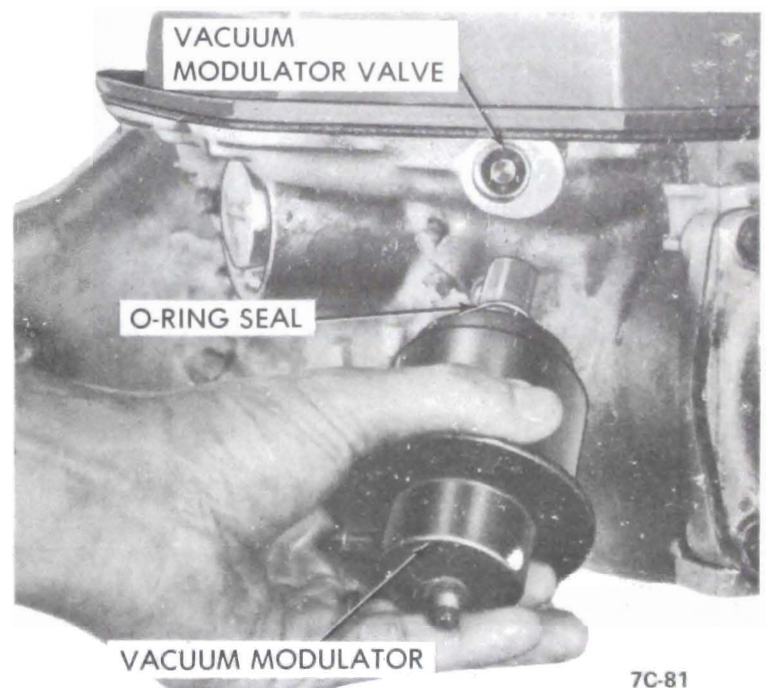

Figure 7C-272
4. Clean off excess stock from the governor o-ring seal to case mating surface. See Figure 7C-281.